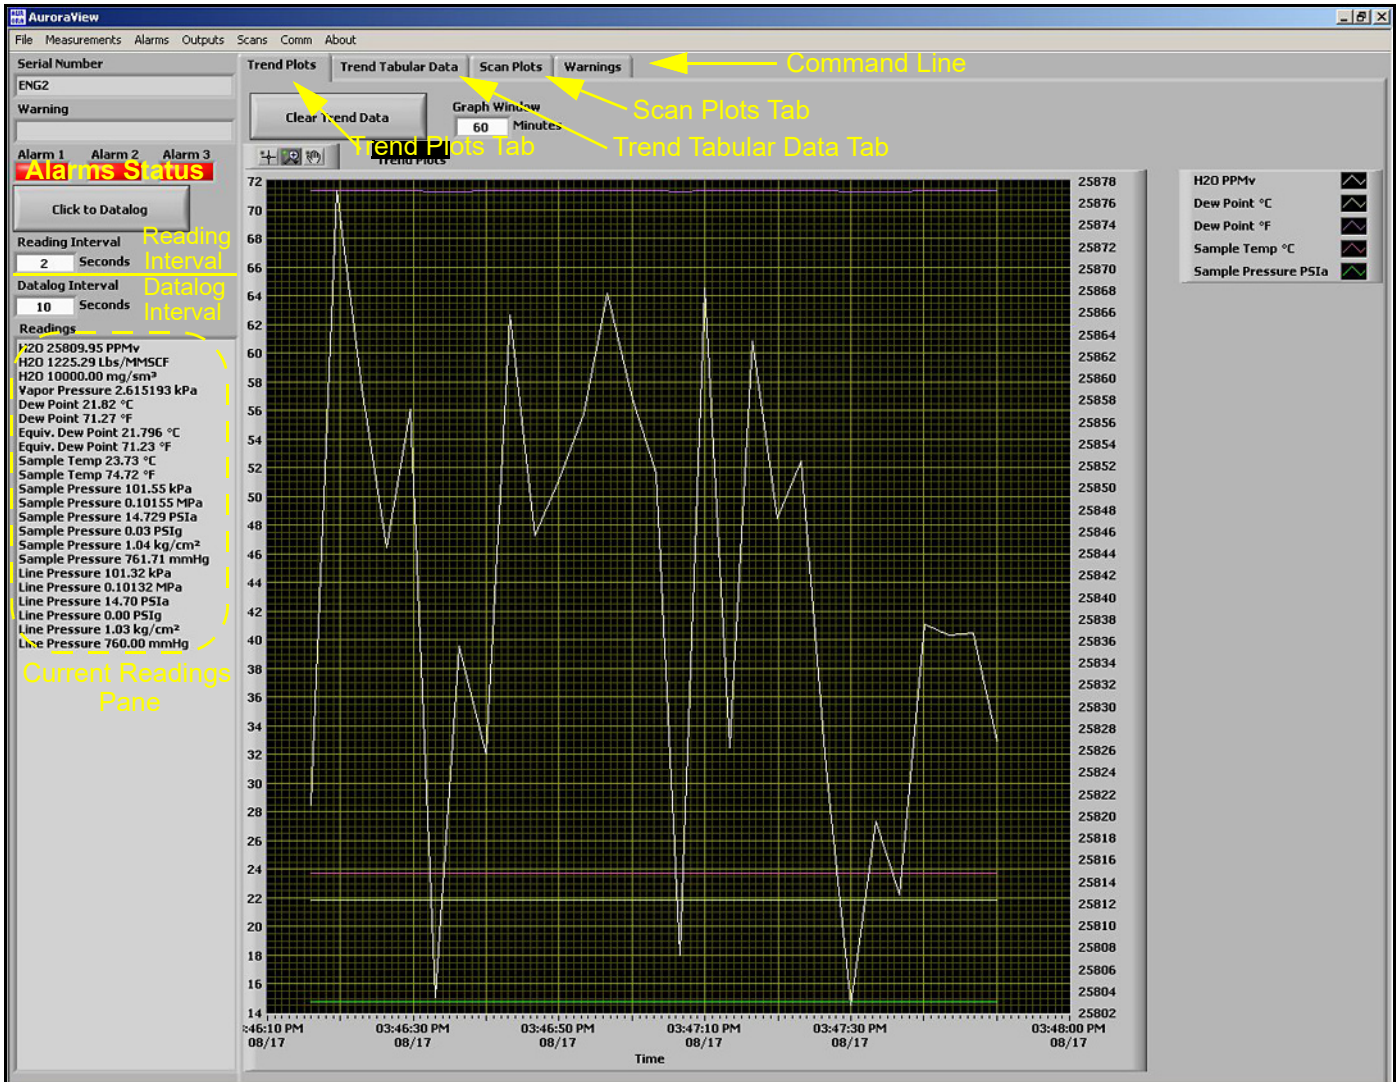

Figure 60: AuroraView Main Screen
2. AuroraView boots up and displays a screen similar to *Figure 60* below.